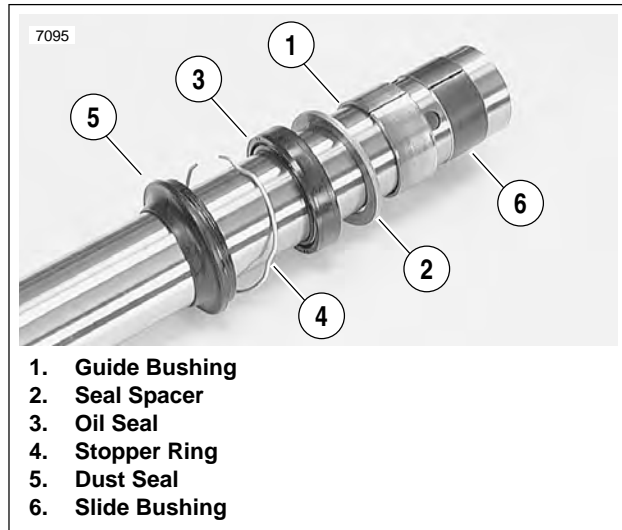

Figure 2-52. Slide Pipe Components
2. See Figure 2-52. Install a **new** dust seal (5) and stopper ring (4) onto the slide pipe.
3. Coat the sealing lips of the **new** oil seal (3) with fork oil or sealing grease and install onto the slide pipe with its marked side facing the dust seal (5). Remove the tape from the slide pipe end.
4. Install the seal spacer (2), the guide bushing (1) and the slide bushing (6) onto the slide pipe.
5. Coat the slide bushing (6) and the guide bushing (1) with fork oil.